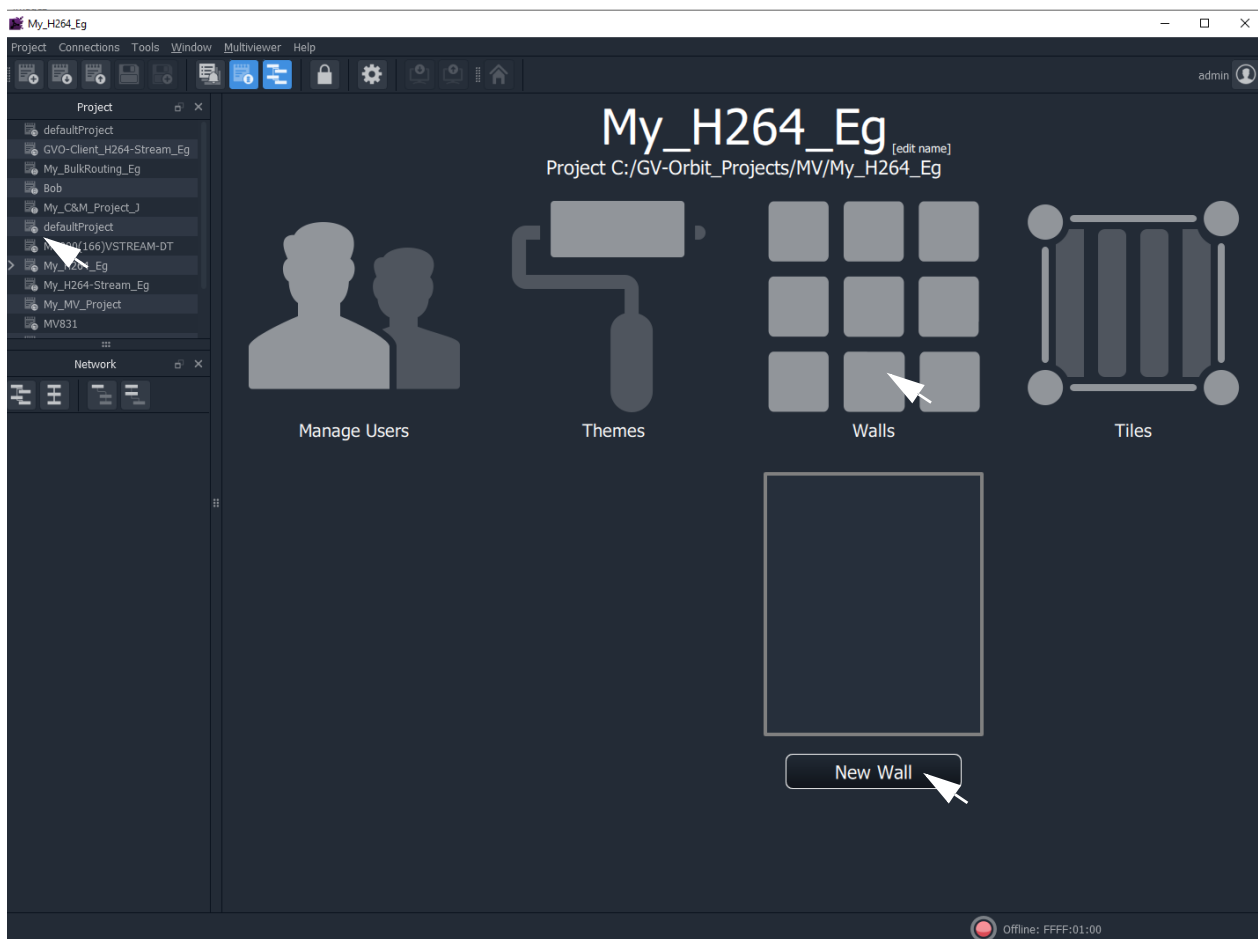

Fig. 4-11: Creating a New Wall
- 4 Click the **Walls** icon and click **New Wall**. See Figure 4-11.